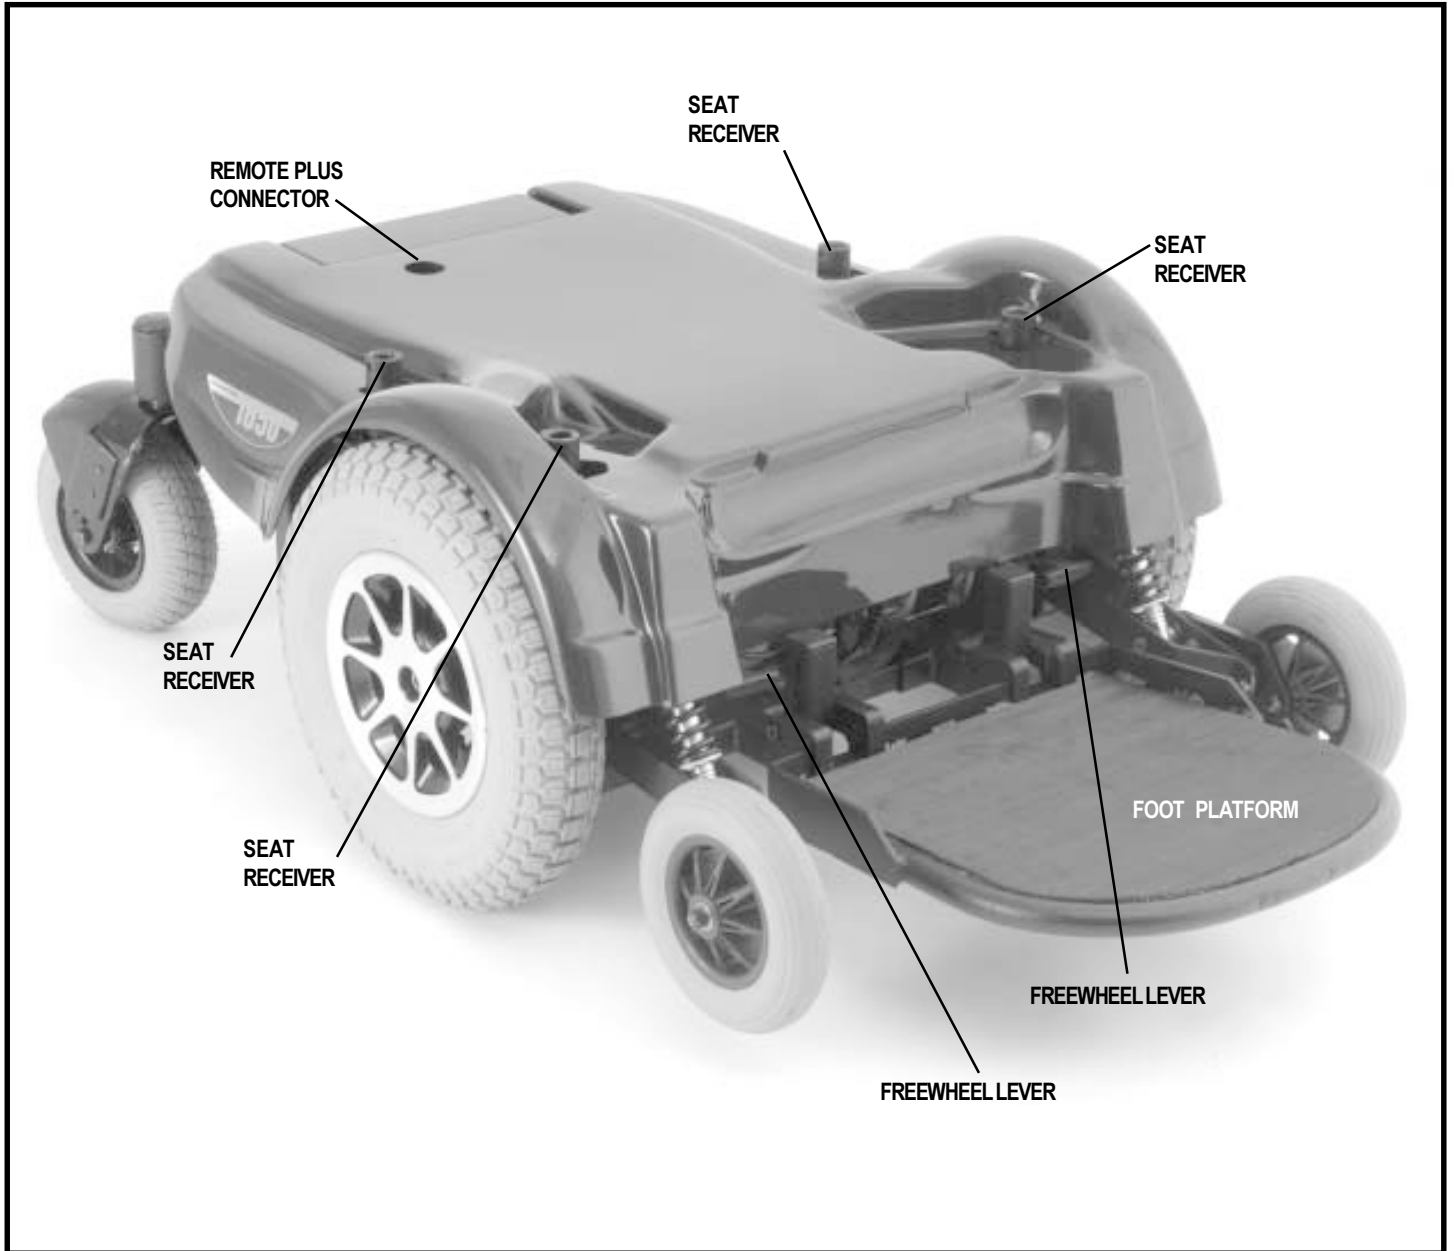

Figure 6. The Quantum 1650 Power Base
10. Plug the communications cable into the back of the Remote Plus and into the connector on the power base. See figure 6 and 17.